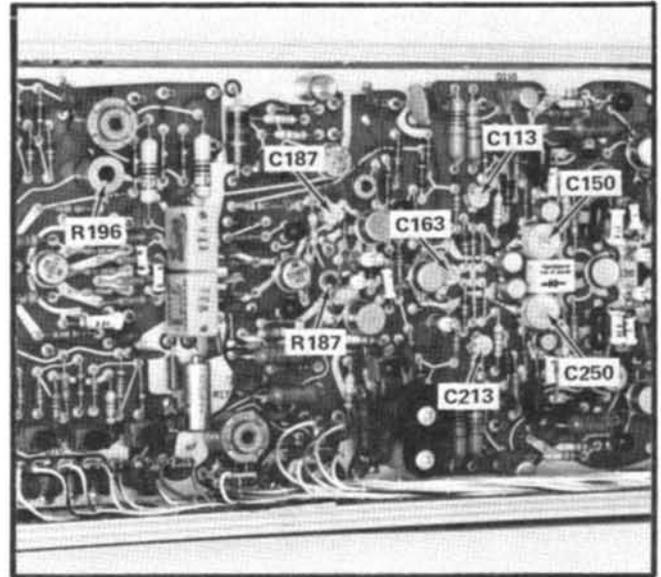

Fig. 5-13. Locations of the high-frequency adjustments on the Input board.
m. ADJUST—R196, R432, R300, C187, R187, C163, C113, C150, C250 and C213 (see Figs. 5-13 and 5-14) in the given order for optimum response to a square wave. C250 and C213 are mainly -INPUT adjustments. To perform the adjustments, use the information in the procedure that follows: